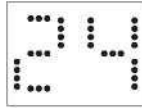

Fig 1
- Before change, in cool mode, the screen display like fig1.